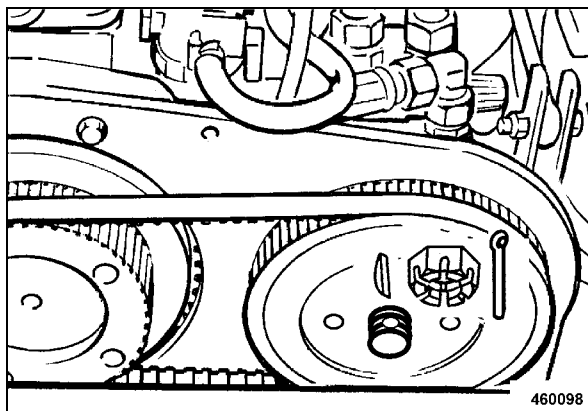

Fig. 133
- Insert the woodruff key into the groove (Fig. 133).